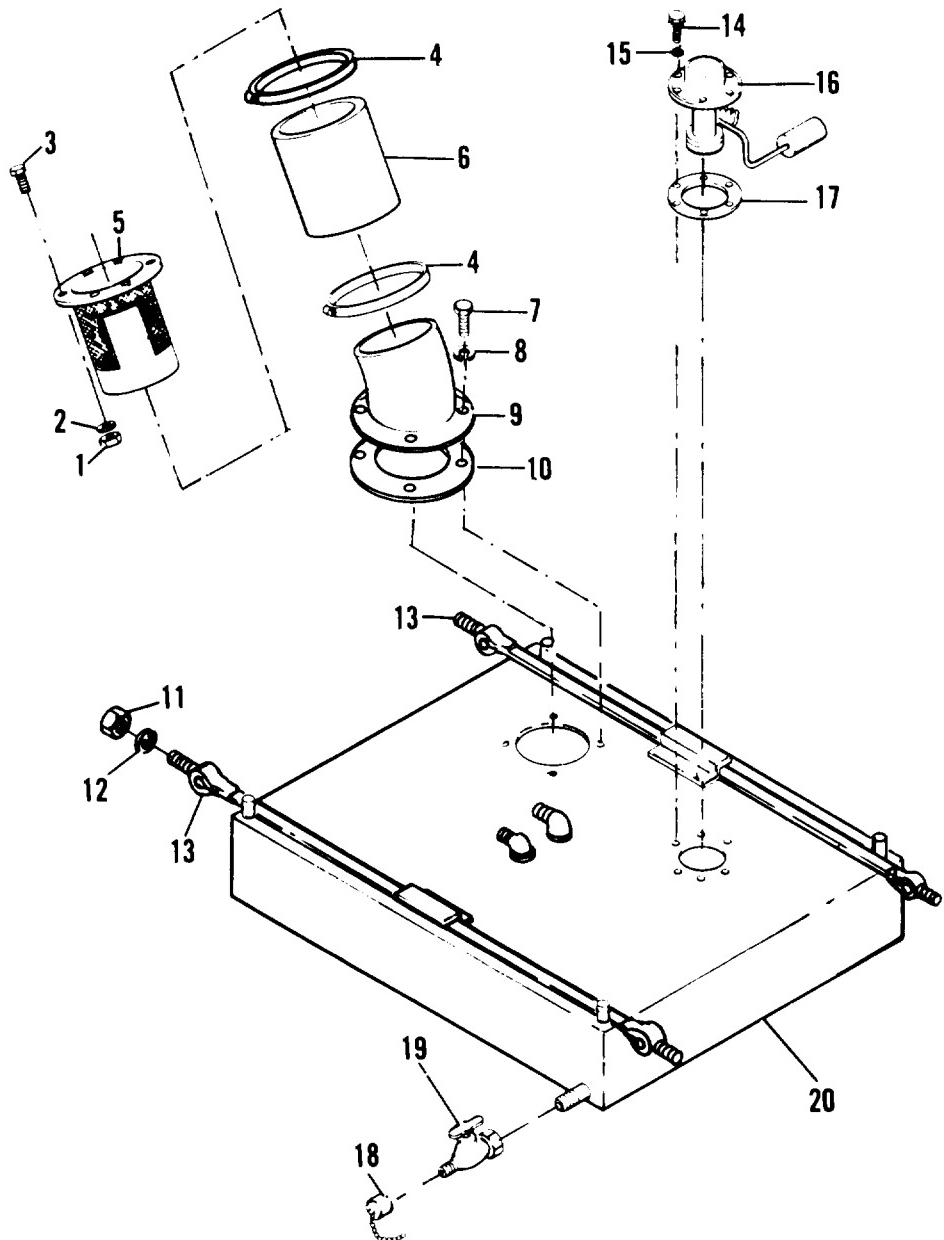

Figure 3-18. Main Fuel Tank (Metal), Removal and Installation
- (1) Refer to the Operator and Unit Manual and accomplish the following:
- (2) Remove nut (1, figure 3-18), lockwasher (2), screw (3), clamps (4), filler neck (5), and hose (6).
- (3) Remove screws (7), lockwasher (8), adapter (9), and gasket (10).
- (4) Remove locknut (11), and flatwasher (12), from strap (13).
- (5) Remove screws (14), lockwasher (15), fuel level switch (16), and fuel level switch gasket (17). Replace gasket if damaged.
- (6) Remove cap (18) and drain valve (19) from metal fuel tank (20).
- (1) Position metal fuel tank (20, figure 3-18) to install drain valve (19) and cap (18).
- (2) Install new fuel level switch gasket (17), fuel level switch (16), lockwasher (15), and screws (14).
- (3) Position strap (13), to install flatwasher (12), and locknut (11).
- (4) Install gasket (10), adapter (9), lockwasher (8) and screws (7).
- (5) Install hose (6), filler neck (5), clamps (4), screws (3), lockwasher (2) and nut (1).
- (6) Refer to the Operator and Unit Maintenance Manual and accomplish the following: